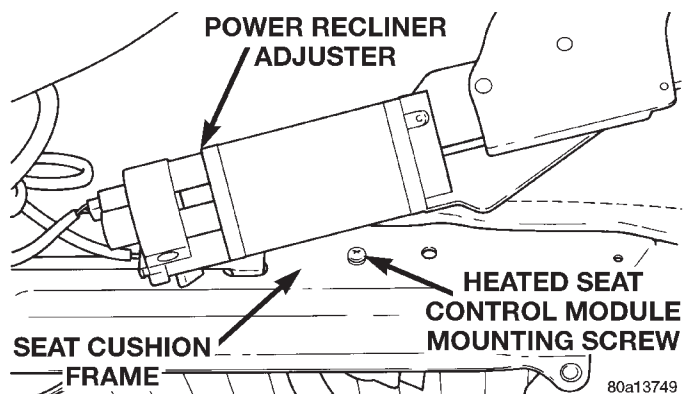
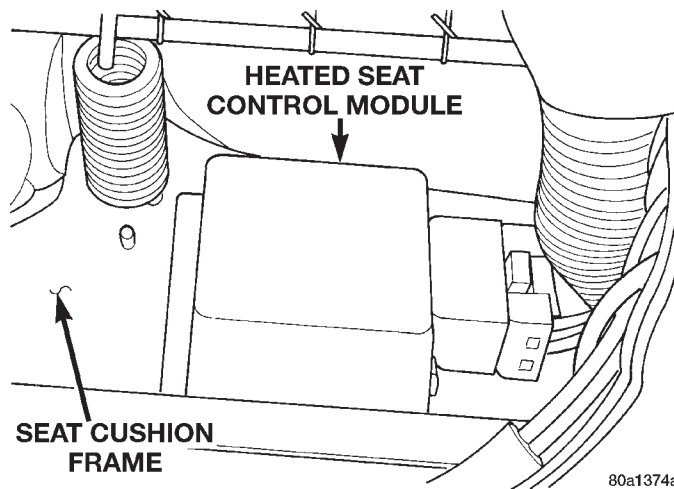

Fig. 2 Heated Seat Control Module Remove/Install
Fig. 3 Heated Seat Control Module
(2) Remove the three screws securing the seat side shield to the seat cushion frame and pull the shield away from the seat so that the power recliner adjuster lower bracket can be seen.
(3) Adjust the seat back with the power recliner switch so that both of the two bolts in the power recliner adjuster lower bracket can be accessed.
(4) Disconnect and isolate the battery negative cable.
(5) Remove the two bolts securing the power recliner adjuster lower bracket to the seat cushion frame.
(6) Gently pry the power recliner adjuster lower bracket upwards to access the heated seat control module mounting screw (Fig. 2).
(7) Remove the mounting screw from the seat cushion frame.
(8) Reach under the rear of the seat cushion to lower the heated seat control module and mounting bracket unit from the inside of the seat cushion frame (Fig. 3).
(9) Unplug the wiring connector and remove the module from under the seat.